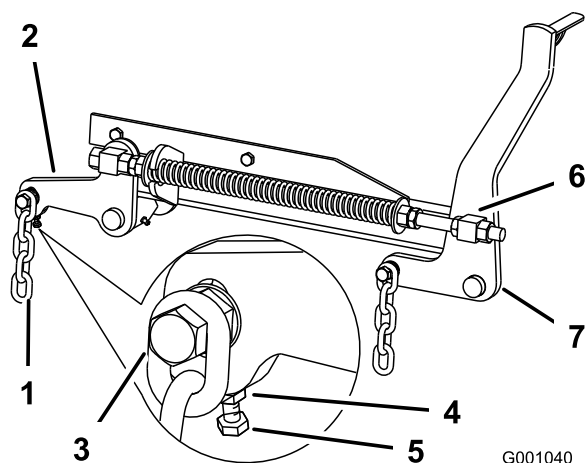

Figure 83
7. If the measurements at positions **B** or **C** are not correct, loosen the bolt attaching the rear chain to the rear support arm (Figure 83).
8. Loosen the jam nut under the rear support arm and adjust the adjustment bolt to get a measurement of 3-1/8 to 3-1/4 inches (80 to 83 mm) (Figure 83).
7. Loosen the front swivel jam nuts, at the front of the right and left swivels, approximately a 1/2 inch (13 mm) (Figure 83).
8. Adjust the lift nuts on both the left and the right side of the machine to achieve 1/4 to 3/8 inch (6 to 10 mm) lower in front at **A** than in the rear at **B** (Figure 83).